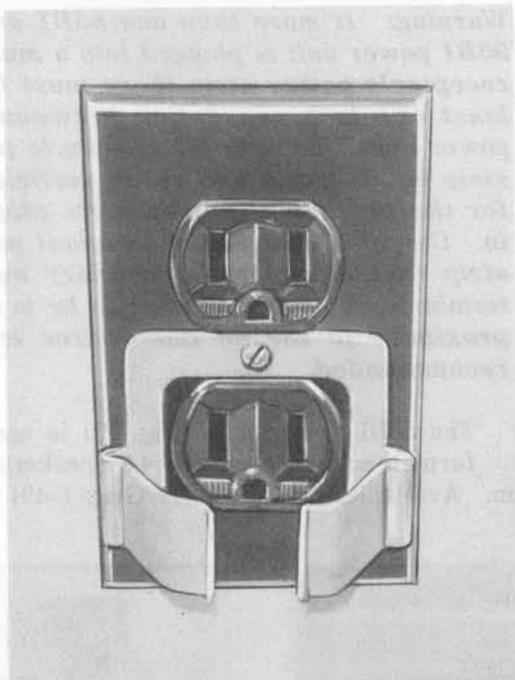

Fig. 20—841050818 Retaining Clamp Mounted on AC Outlet Box Using Outlet Cover Mounting Screw
12.02 The ac input to the unit is by means of two parallel blades for use in a standard two wire receptacle which serves as the mounting device. A retaining clamp (841050818) is furnished with the 85B1 power unit, see Fig. 20. The ac output is available through screw terminals recessed in the plastic case.
Danger: For safety, securely attach retaining clamp to ac outlet using outlet cover screw BEFORE attempting to install 85B1 power unit. See Fig. 20. When removing 85B1 power unit, always unplug the power unit completely from the outlet
13.02 The ac input to the unit is by means of two parallel blades for use in a standard two wire receptacle which serves as the mounting device. A retaining clamp (841050818) is furnished with the 95B1 power unit, see Fig. 20. The ac output is available through screw terminals recessed in the plastic case.
Danger: For safety, securely attach retaining clamp to ac outlet using outlet cover screw **BEFORE** attempting to install 95B1 power unit. See Fig. 20. When removing 95B1 power unit, always unplug the power unit completely from the outlet **BEFORE** attempting to remove the retaining clamp. This will prevent the possibility of a loosened retainer clamp or metallic outlet cover making contact with the ac prongs of the 95B1 power unit when partially withdrawn from outlet. Do not use an 841050818 or similar retaining clamps on outlets where the cover mounting screw holds the duplex outlet in the box.